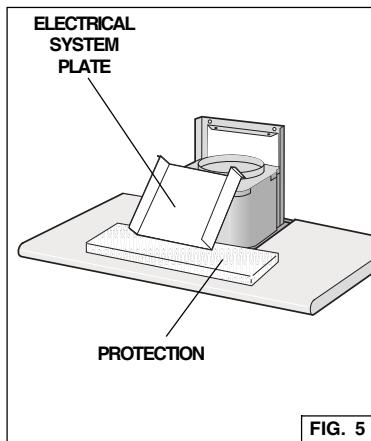

FIG. 5
1. Remove the tape on the electrical system plate; place the electrical system plate on the hood (use a protection). Fig. 5